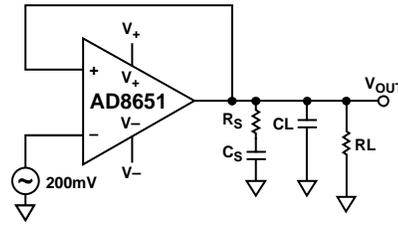

Figure 56. Snubber Network
2) Another way to stabilize an op amp driving a large capacitive load is to use a snubber network, as shown in Figure 56. Because there is not any isolation resistor in the signal path, this method has the significant advantage of not reducing the output swing. The exact values of  $R_s$  and  $C_s$  are derived experimentally. In Figure 56, an optimum  $R_s$  and  $C_s$  combination for a capacitive load drive ranging from 50 pF to 1 nF was chosen. For this,  $R_s = 3 \Omega$  and  $C_s = 10 \text{ nF}$  were chosen.